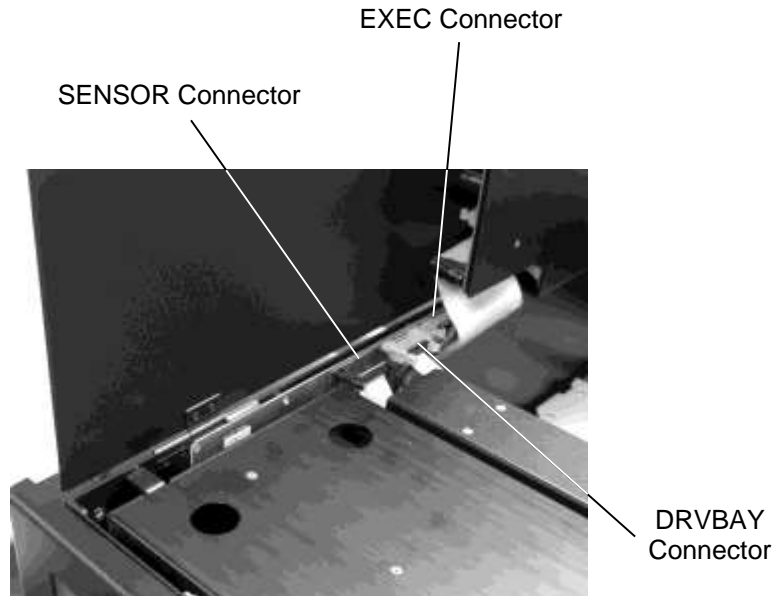

Figure 7-12 Top Connectors on the Interconnect PCBA
5. On the Interconnect PCBA, unplug the three ribbon cables. Refer to Figure 7-12.
13. Reinstall the Sensor Master Assembly using the two 5/64ths hex-head screws on the left side and two flat-head screws on the right side. Tighten the screws with a 5/64-inch hex driver (Allen wrench) and a No. 1 Phillips screwdriver. See Figure 7-37. Plug all three ribbon cables back into the Interconnect PCBA as shown in Figure 7-12.